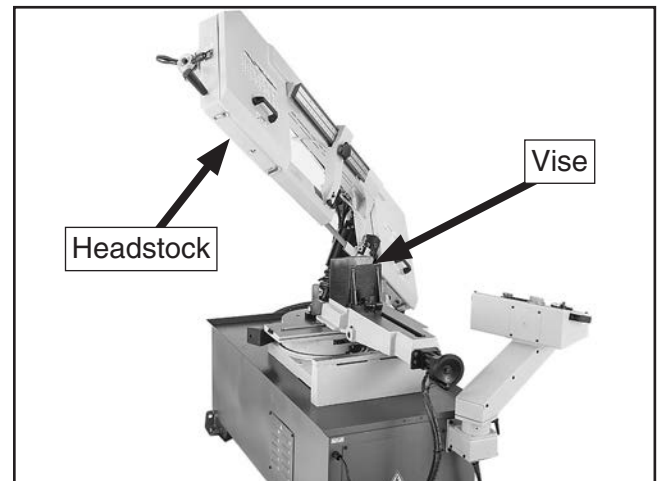

Figure 50. Headstock positioned for cuts to left.
5. Slide vise to right position and secure (refer to **Changing Vise Position** on **Page 34**). Headstock should look similar to **Figure 50**.